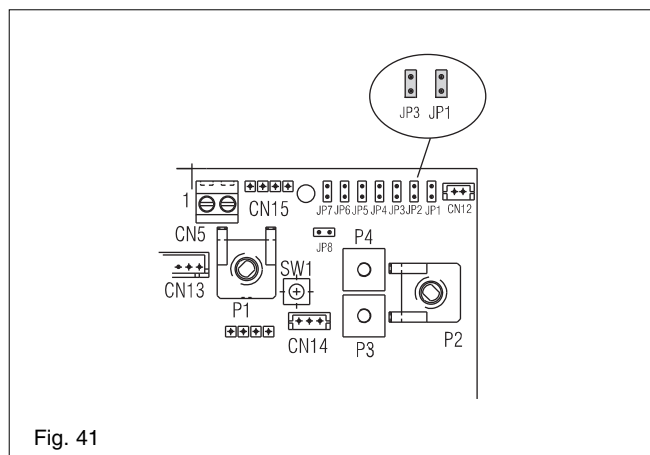

Fig. 41
- Insert jumpers JP1 and JP3 (fig. 41)